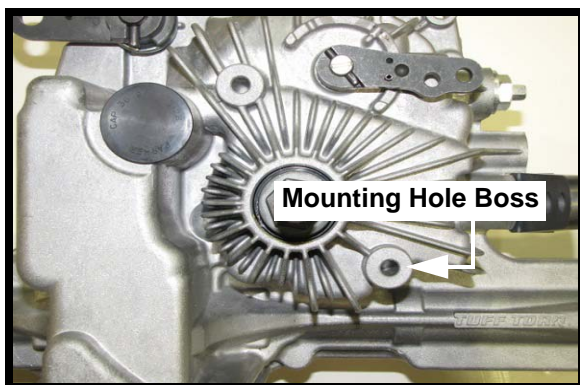

FIGURE 3
5. Locate the mounting hole boss for the Tuff Torq Belt Keeper Bracket and plate. Notice that the hole is not threaded. See Figure 3. Use Item #4 (710-0817) 5/16-18 x 1.250" Tap Tite Screw to cut threads into the hole. Slowly thread the screw all the way in, then remove it.